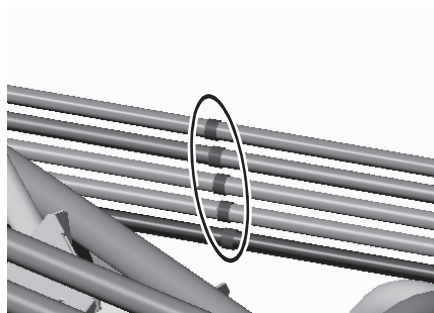

Figure 14
- (16) To remove the front heat exchanger, unscrew the screws on the front of the right front pillar. (4 screws on a standard model or 3 screws on a high-efficiency model) (See Figure 14.)
Remove the braze at the five areas on the five pipes on the back of the accumulator. (See Figure 14.)